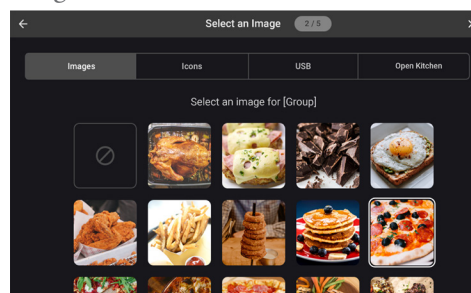

Figure 24: Select Group Image
4. Select an image and touch the blue “Save” button (Figure 24, below).